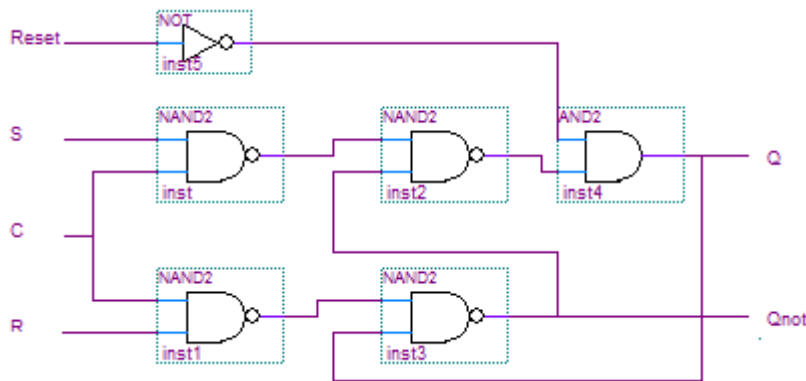

Figure 1 : Clocked SR-latch Implementation
1. Inside the **SR2.v** file, write a **structural** Verilog module to implement the clocked SR-latch given in Figure1 . The modules for the basic gates are given in the **lib.v** file.